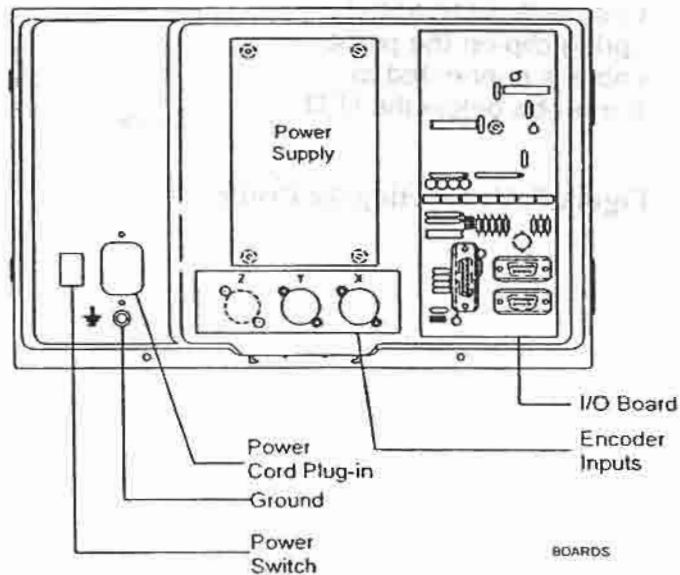

Figure 8, Location of I/O Board
2. Locate I/O Board P/N 30500063 (refer to **Figure 8, Location of I/O Board**).